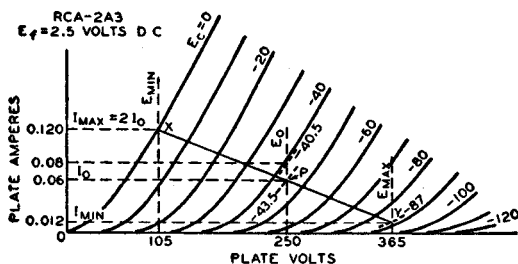

Fig. 21—Graphic calculations for class A amplifier using the 2A3 power triode.
per-cent second-harmonic distortion can also be determined. The calculations are made graphically and are illustrated in Fig. 21 for given conditions. The procedure is as follows:
**Example:** Determine the load resistance, power output, and distortion of a triode having an amplification factor of 4.2, a plate-dissipation rating of 15 watts, and plate-characteristics curves as shown in Fig. 21. The tube is to be operated at 250 volts on the plate.